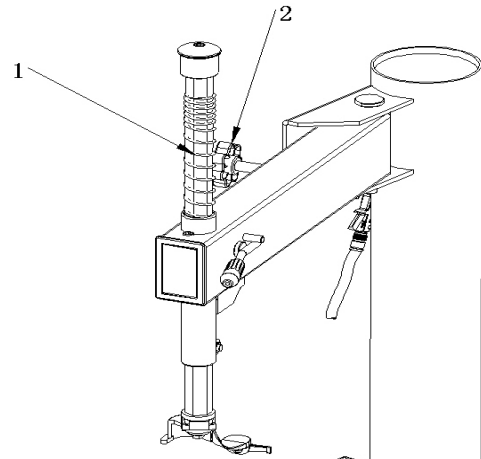

Fig 4-4
4.2.7 Use the hexangular wrench to unscrew the screw (3) on the hexangular shaft (3) to remove the vertical shaft cap (2). When remove the screw on the vertical shaft cap, you should lock the hexangular shaft by the lock handle to keep it from falling down to damage the machine of cause the personnel accident!
Cover the vertical shaft spring (1) on the vertical shaft. Mount the screw detached from the vertical shaft cap and use the hand wheel to screw into the nut bushing of the rocker arm as shown in Fig 4-4.